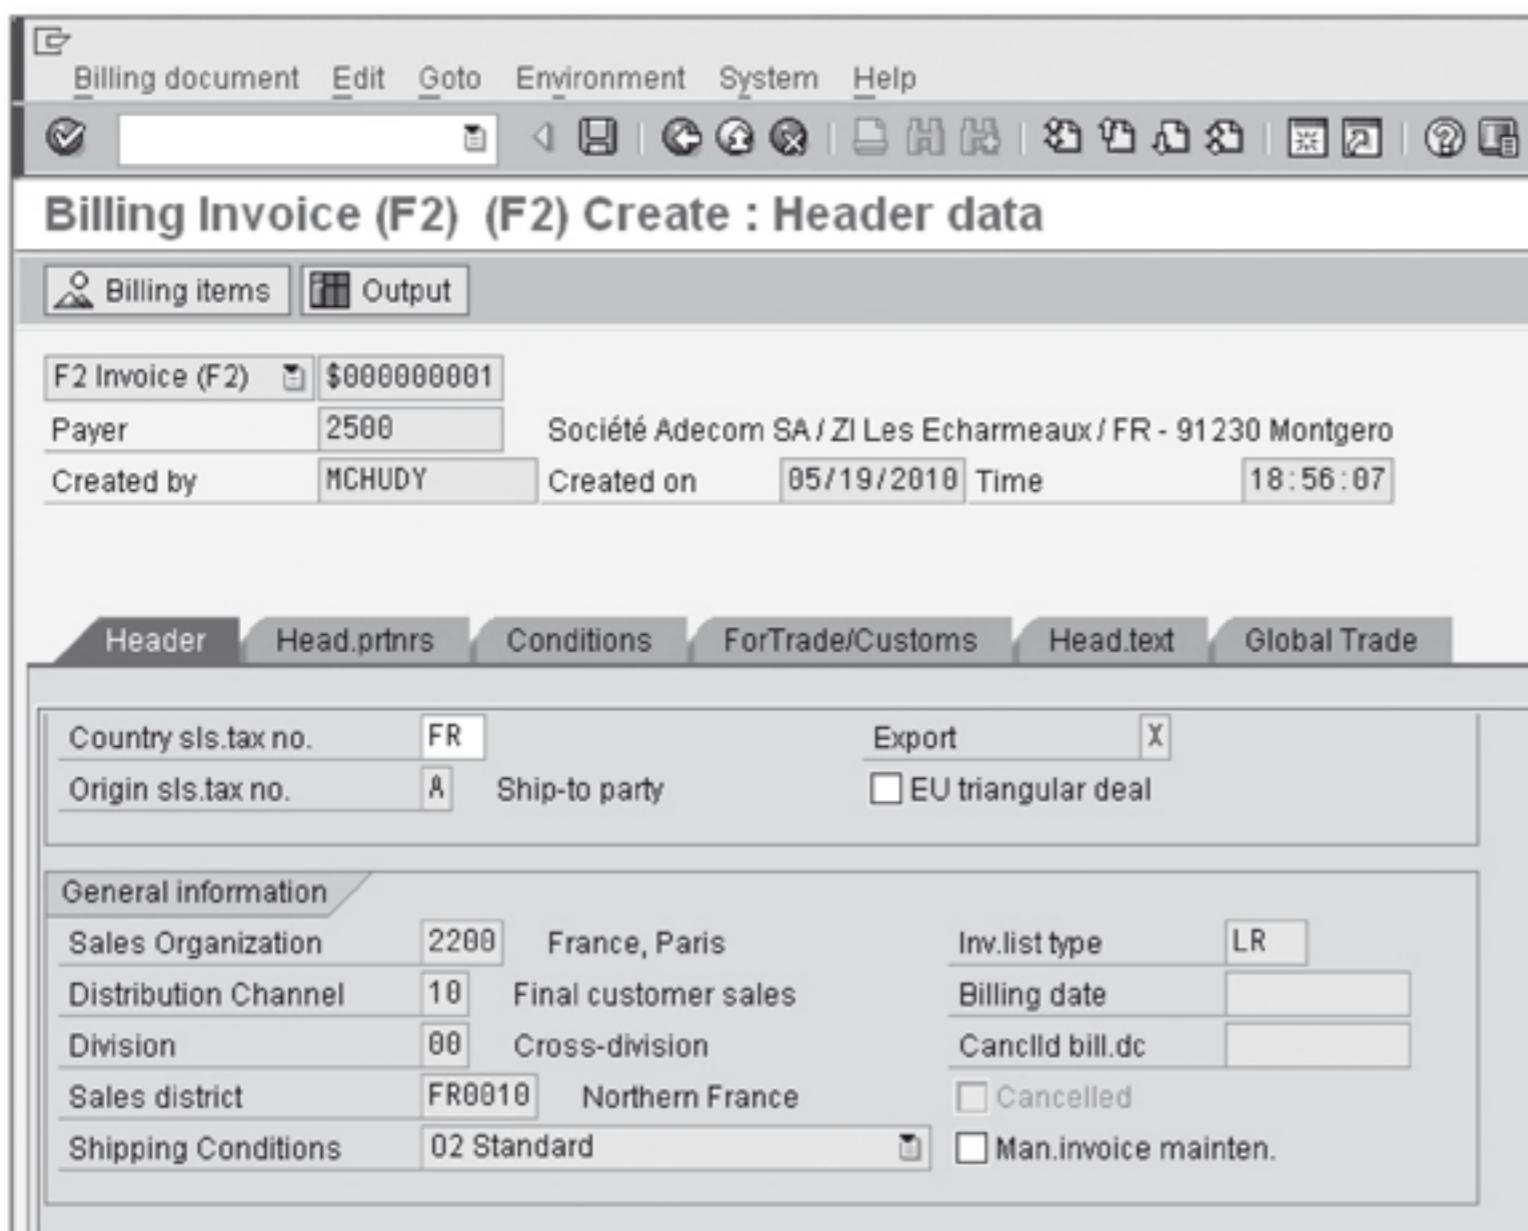

Figure 3.55 Billing Documents – Header Data General Information
- This invoice will be submitted to the customer by company code 2200 (see the header data showing the sales organization presenting the invoice) as shown in Figure 3.55. Notice that the original intercompany conditions are copied into your billing document. They aren't used for any calculation though; they are purely statistical and will be used by accounting to calculate profitability.